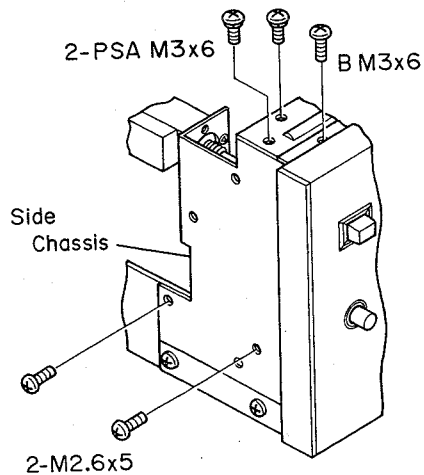

Fig. 4-9 Side Chassis
1. See Fig. 4-9. Remove three screws then separate the Side Chassis from the Main Chassis to facilitate dismantling of the Motor.
5. Further remove the Capstan Motor from the Motor Base by removing three mounting screws (B).